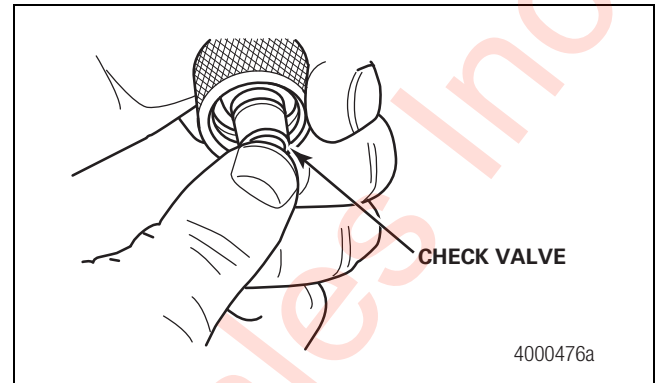
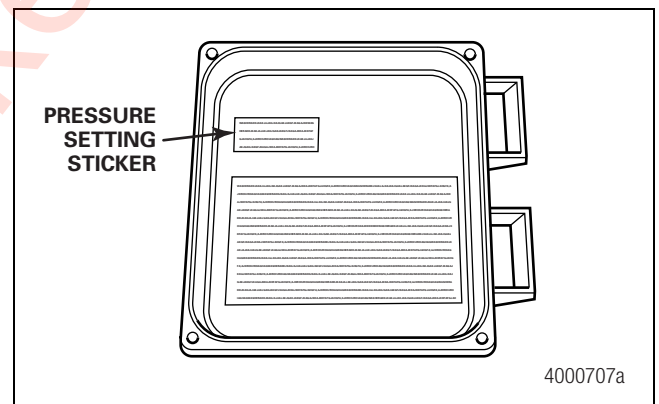

Figure 3.6
Figure 3.7
7. Push on the check valves at the ends of the hoses attached to the tires. Air should flow from the tires. Figure 3.6.
8. Use the check valve in the hoses to reduce pressure in all the tires 5 to 10 psi below the desired tire pressure. A sticker located inside the control box door indicates the tire pressure that the inflation system will deliver. Figure 3.7. For example, if the fleet runs 100 psi (689 kPa), reduce the tire pressure to 90 to 95 psi. Figure 3.6.